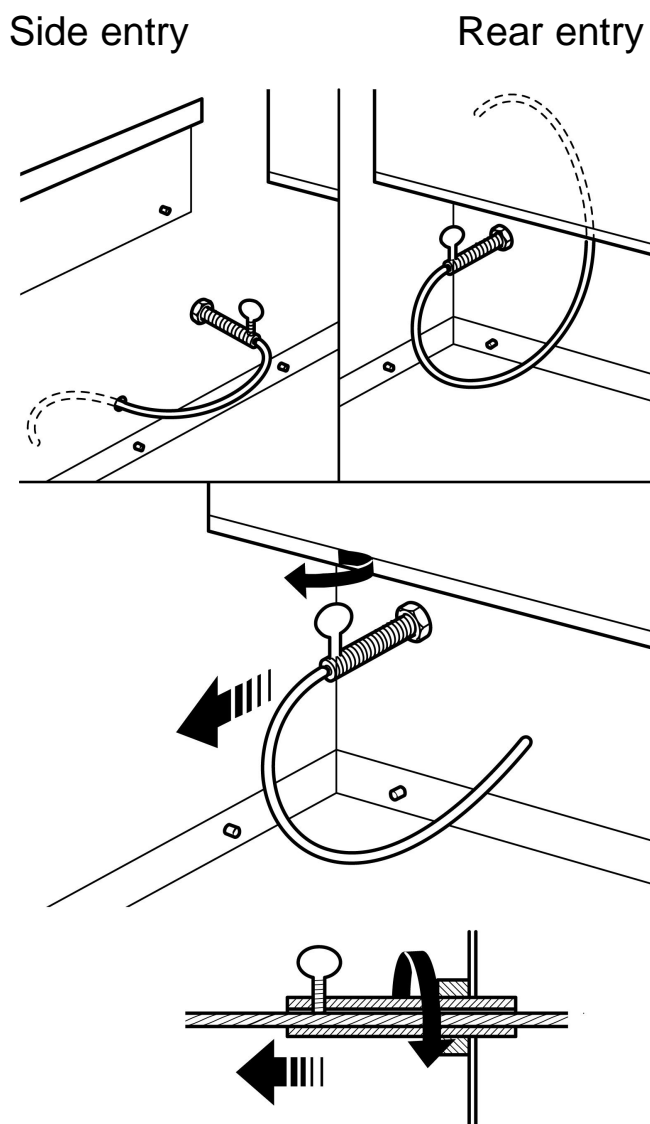

Figure 21. Lower cable retention
11. Pull each cable taut. Push the cable retainers hard up against the back panel. The end of the cable adjuster will pass into the hole. Tighten the screws in the retainers so that they clamp the cables in position. Apply tension to the cables by turning the hexagonal adjusters by hand (See figure 21).
14. Feed the free length of the cables into the gap between the inner and outer back panels so that they are available to allow easy removal and refitting of the appliance during subsequent service calls. ***Do not cut off the free lengths of cable.*** On precast flue installations feed the cables into the small holes at the base of the side panels (See figure 21).